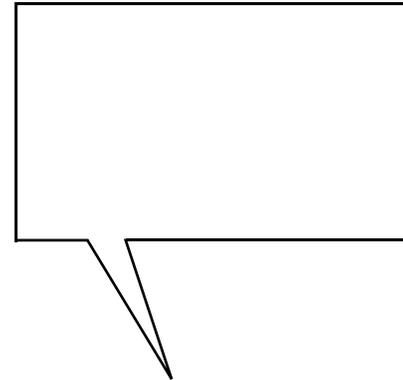

Figure 4-141. Removing the Printer Mechanism (2)
- Tighten the screws in the order given in Figure 4-141.